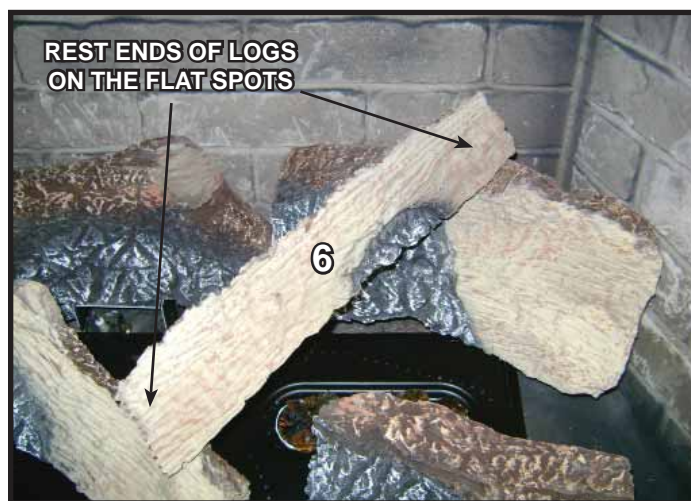

Figure 11. Place Log #6
**Log #6 (SRV2223-705):** Position Log #6 as shown in Figure 11. See Figures 2, 5 and 10 for additional reference points. Place the front and back ends of the log on the flat spots as shown in Figure 11.